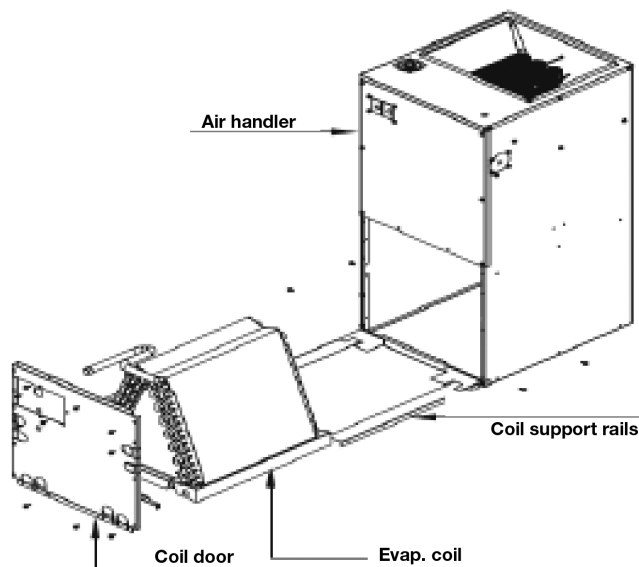

Figure 2. Evaporator Coil Disassembly for conversion to downflow
You must use the downflow conversion kit and follow the instructions below. Refer to Figures 2 and 3.
3. Remove evaporator coil assembly with drain pan by sliding out the front of the unit as shown in Figure 2.
4. Remove 6 screws (3 on each side of unit), securing evaporator coil support rails. Refer to Figure 2.
2. Remove the evaporator coil assembly with the drain pan by sliding it out of the front of the unit as shown in Figure 2.